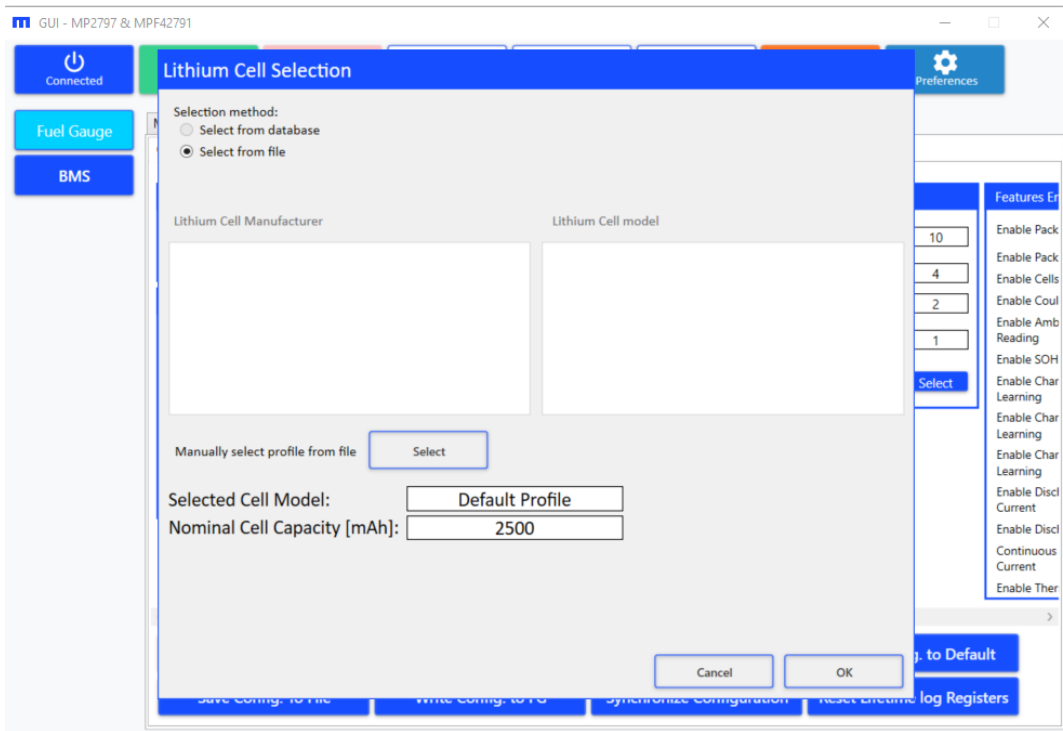

Figure 42: Lithium Cell Selection Window
- a. The first “Select” button opens the wizard to select the cell profile (see Figure 42 on page 33).